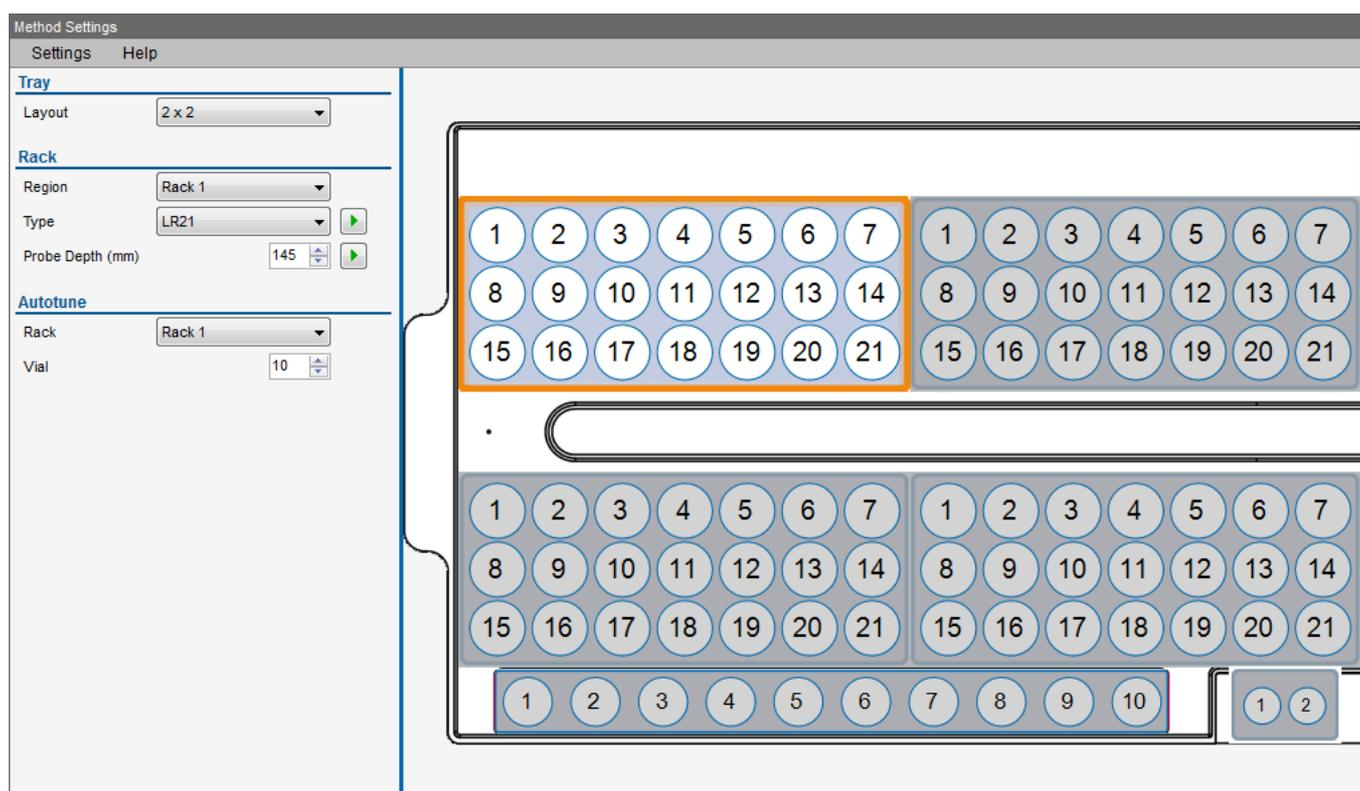

Figure 14-5. ESI SC-4Q settings
3. Click  Method Settings to open the autosampler view, see Figure 14-5.
The ESI SC-4Q autosampler offers 5 racks and a rinse station, see Figure 14-5.